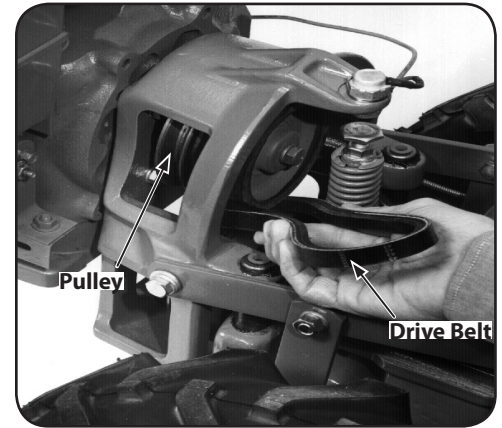

Figure 5-28
from between the pulleys. See Figure 5-28.
8. Squeeze the belt in the middle and insert one end in between the pulleys. See Figure 5-28.